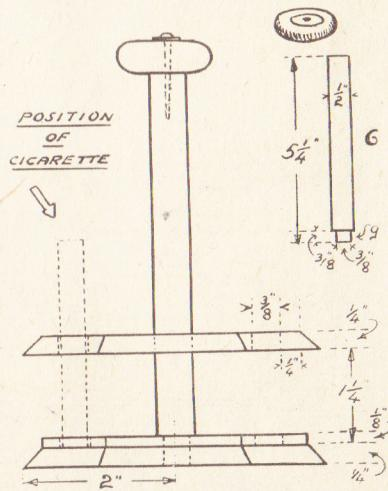

Fig. 3—Section and detail of spindle
Now take a $\frac{1}{2}$ in. square opening out of the centre of (B) and another of $\frac{3}{16}$ in. sides from the middle of the base. These are for the handle (G) (Fig. 3). It would be nice if this latter could be turned on a lathe at the top to some pleasing shape, but in lieu of this finish, a square-section length of wood with a 'button' on top